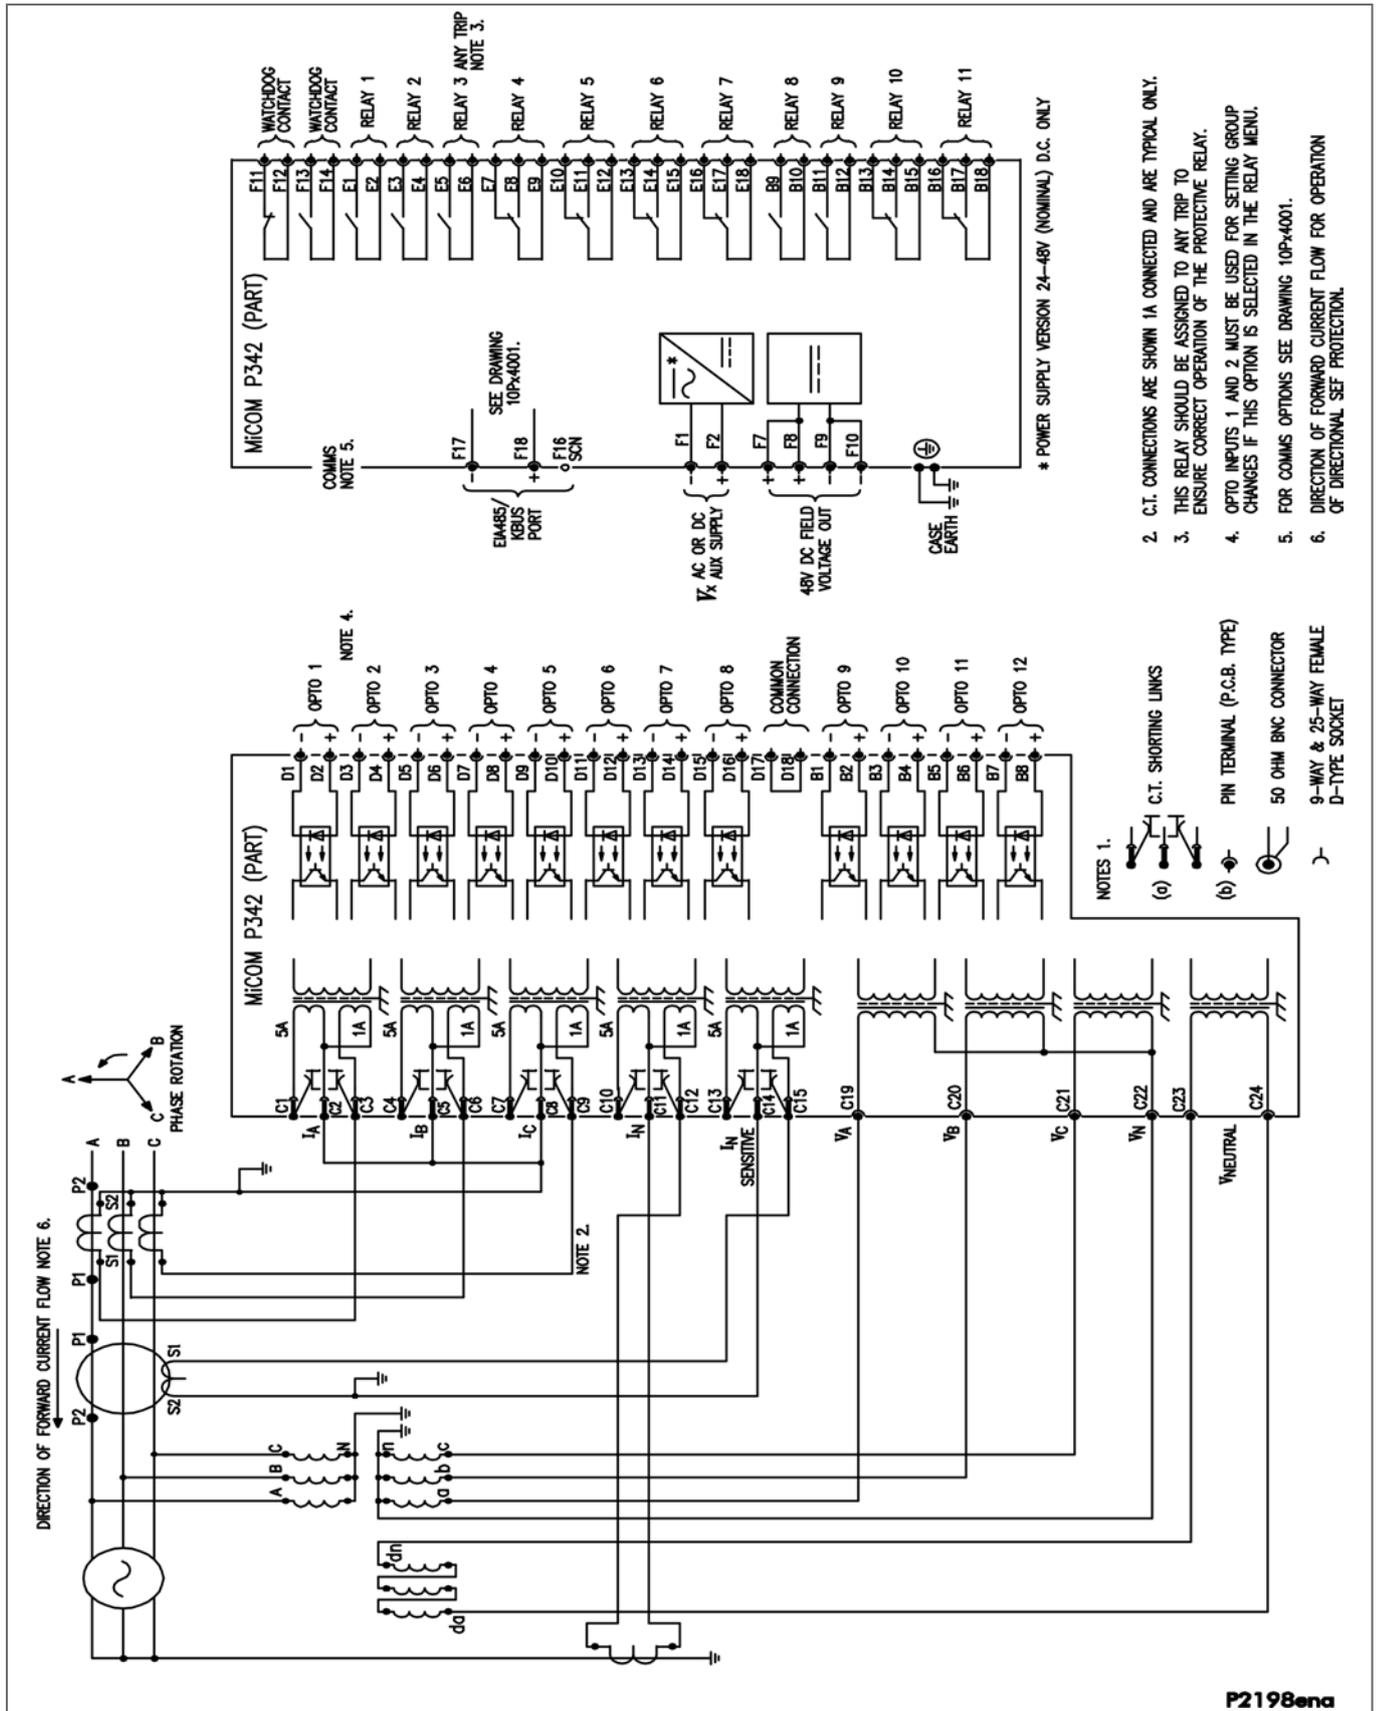

Figure 46 - P342 (40TE) for small generator (12 I/P & 11 O/P)
- Figure 46 - P342 (40TE) for small generator (12 I/P & 11 O/P)